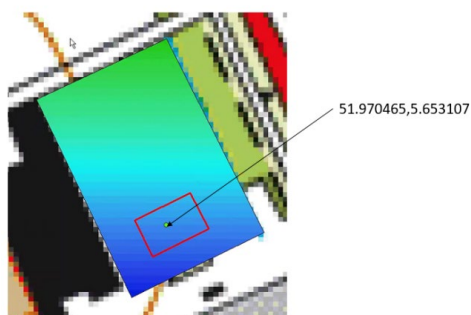

Figure 1: A heterogeneous field, therefore sample a smaller area in the field
- To do this, record the coordinates of the middle point of the sampled area (see figures 1 and 2).
- If the soil in your field has a lot of variation, i.e., is heterogeneous (figure 1), select an area of max. 1 ha to sample.
- Record the GPS coordinates of the middle point of the sampled area (see figures 1 and 2).